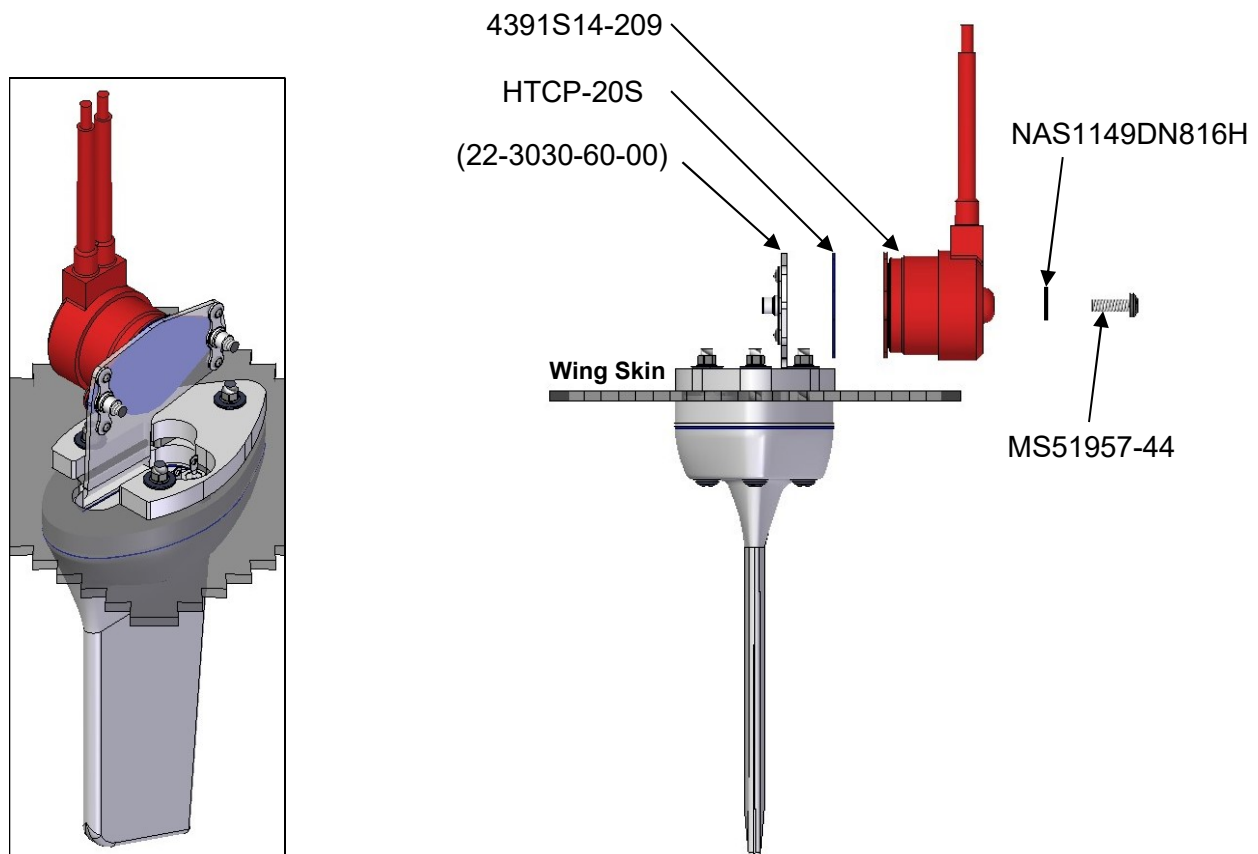

Figure 58: High Thermal Limit Switch Installation
- 13.3.7** Install the High Thermal Limit switch to the already installed Bracket Assembly (22-3030-60-00) according to Figure 58. Apply a thin layer of Thermal Conductive paste, a maximum $\frac{1}{2}$ mm thickness, between switch and bracket. Wipe away any excess paste (p/n: HTCP-20S) after assembled.